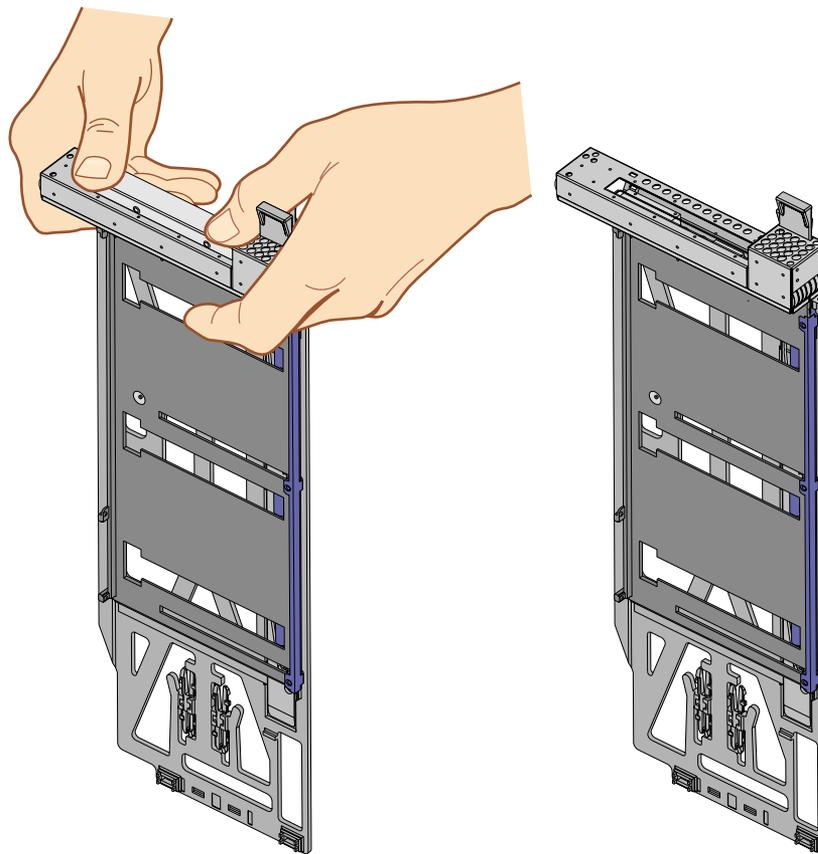

Figure 9 Extracting the Carrier Metal Filler Plate
3. If you are replacing a card, gently pull the existing card from the carrier. If you are adding a card, extract the carrier metal filler plate by pushing down on it, as shown in Figure 9. This filler plate covers the area where your card connectors will protrude out to the rear panel of the IX-brick.